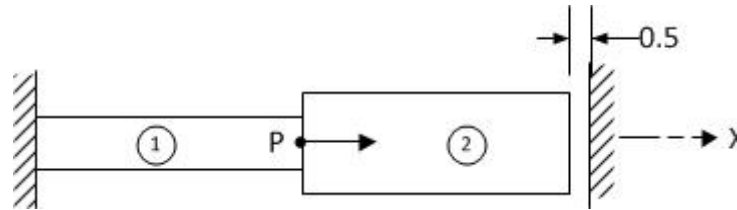

Figure 4
- (b) Consider the bar shown in figure 4. Determine the nodal displacement and elemental stresses. Apply boundary conditions using penalty approach. Take  $P = 60 \text{ kN}$ . Use following data. 07